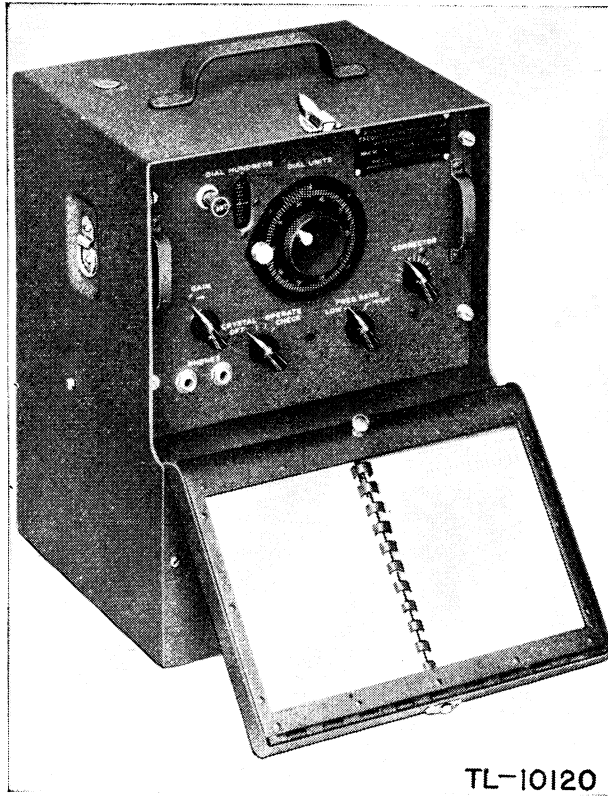
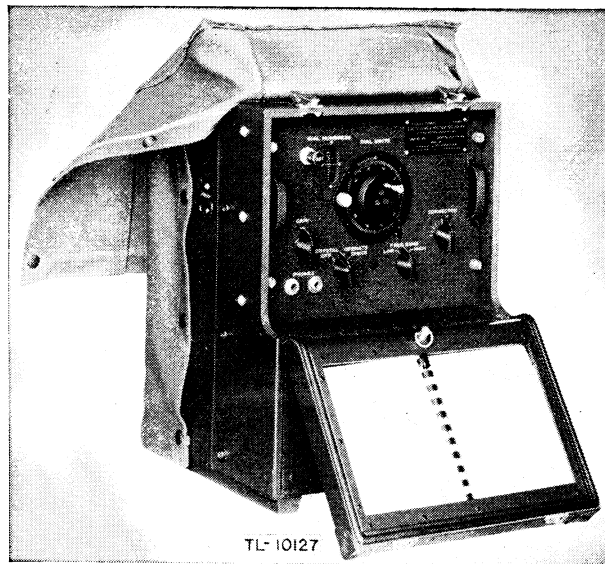

Figure 1. Frequency Meter BC-221-($\text{\textcircled{E}}$), in metal cabinet.
Figure 2. Frequency Meter BC-221-($\text{\textcircled{E}}$), in wooden cabinet.
b. The principal component of the set is Frequency Meter BC-221-(&), a heterodyne-type frequency meter, which is supplied in either of two types of cabinet: a black wrinkle-finished aluminum-alloy cabinet (fig. 1), or an olive-drab finished wooden cabinet. (See fig. 2.) The upper and largest compartment of the cabinet contains the frequency meter chassis and sometimes some of the spare parts. The next smaller compartment, at the bottom rear, contains the batteries. The smallest compartment, at the bottom front, contains either spare parts or the headset. (See figs. 19, 20, 21, and 25 for representative views.) A carrying handle and one or two snap latches are mounted on the top surface of the cabinet. Two small rings to which carrying Strap ST-19-A can be hooked, are mounted at the sides of the cabinet. The BC-221-Q, BC-221-AA, BC-221-AC, BC-221-AE, BC-221-AF, BC-221-AG, BC-221-AH, BC-221-AJ, BC-221-AK, and BC-221-AL frequency meters are normally supplied with the wooden cabinet. Some BC-221-Q and BC-221-AA frequency